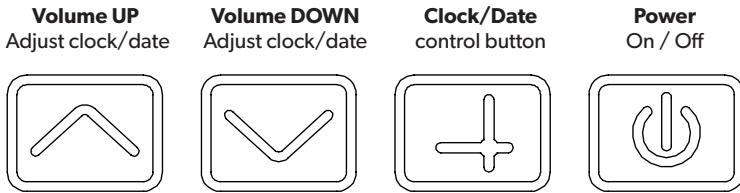

Fig 3. - Operational control buttons
1. Press the **Power** button once to turn ON illumination and Bluetooth® connectivity, *Fig. 3*.
1. To activate the Bluetooth®, turn the mirror on by pressing the **Power** switch, *Fig. 3*.
1. Press and hold the **Clock/Date** switch, *Fig. 3*.